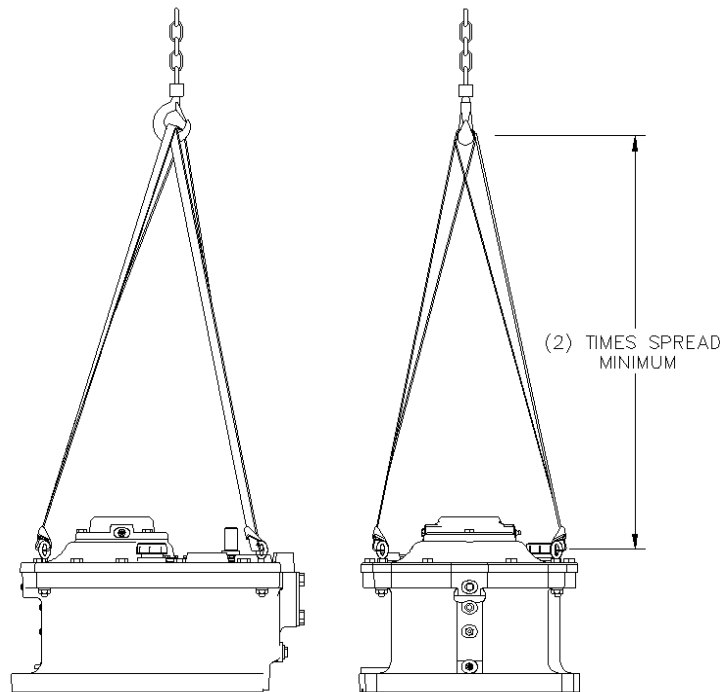

Figure 11. Agitator Lifting System
2. Remove all shipping restraints. A hoist or crane system for the lifting of the agitator parts must be available. Refer to Figure 11, page 31 for lifting instructions. The approximate net weight of the unit is shown on the unit assembly drawing. Since gear drives are typically supplied with the motor un-mounted, always verify that the motor being mounted is correct for the gear drive by checking the assembly drawing.
6. Lift the agitator drive (Figure 11, page 31).